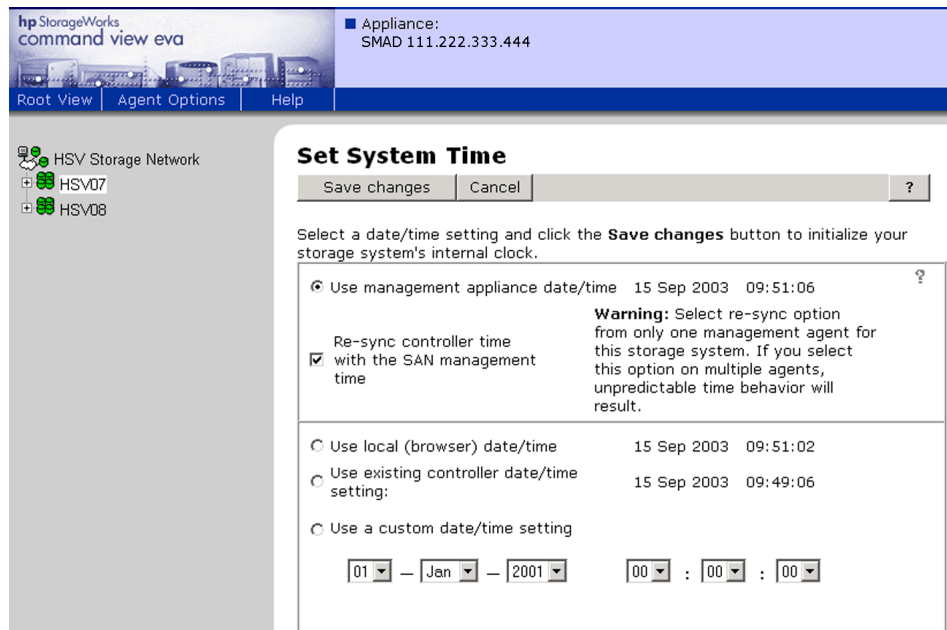

Figure 41: Set System Time page
5. Choose the **Set time options** box. Various options for setting time are displayed on the Set System Time page (Figure 41).